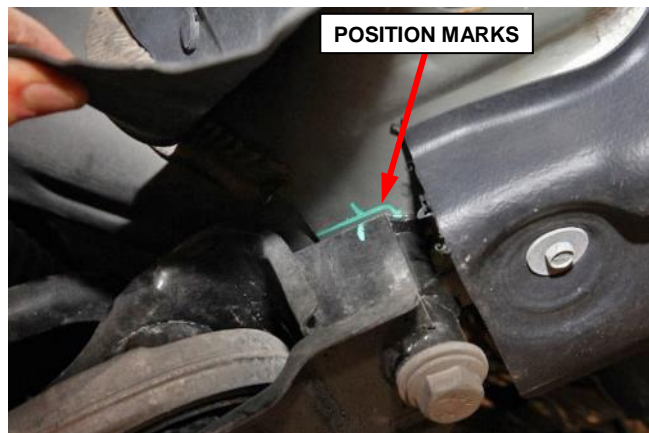

Figure 66 – Mark Crossmember Position
43. Mark the position of the crossmember with a grease pencil or equivalent (Figure 66).